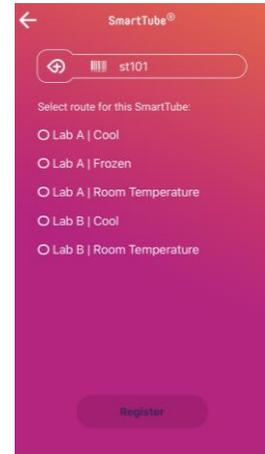

Figure 12i. Assign SmartTubes to routes
- a)** Tap the  button next to the desired route to select it. Only one route may be selected. After a route has been selected, the button will appear solid and the “Register” button below will be enabled (see Figure 12i and 12ii).
Figure 12ii. Assign SmartTubes to routes